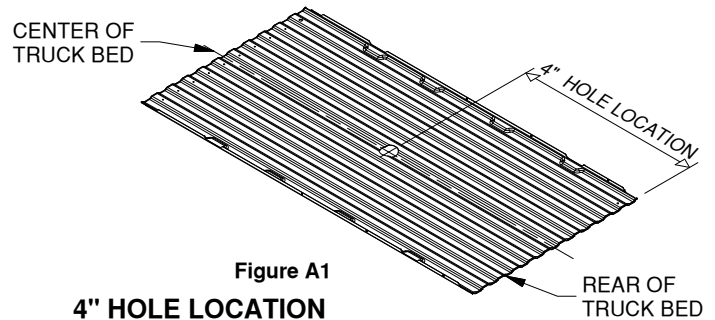

Figure A1
5. **Mark the 4" hole location.** Using a tape measure hooked over the rear edge of the bed (at tailgate end), measure the location for the hole as shown in Figure A1. Next, locate the center of the bed by measuring the distance between the wheel wells and dividing by two. The center of the hole will be at the intersection of the center of the bed and the first distance measured.